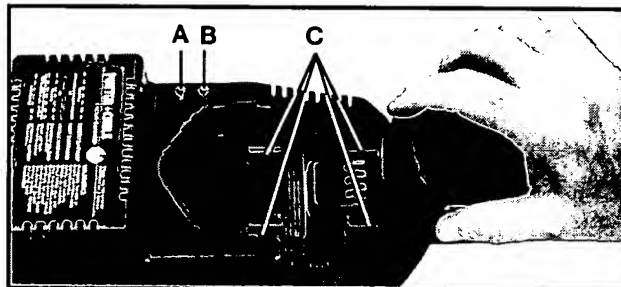
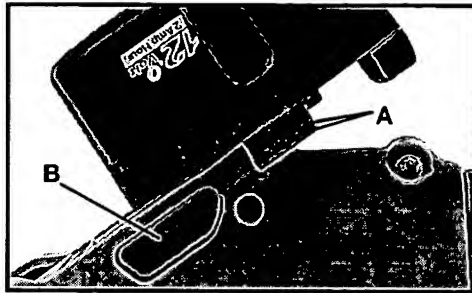

Fig. 23
Fig. 24
Make sure power circuit voltage is the same as that shown on the charger specification plate. Connect charger to power source. The green light (A) Fig. 23, should begin to flash. This indicates the charger is ready to begin charging.
Position battery pack on charger, align rails (A) Fig. 24 on battery pack with four tabs (C) Fig. 23 on charger. Slide battery forward onto charger until it stops.
The green light (A) Fig. 23, should begin to glow continuously, indicating that the battery pack is receiving a "Fast Charge" (if the green light does not glow continuously, or if the red light (B) Fig. 23, also begins to flash: see DIAGNOSTICS). After approximately one hour, the "Fast Charge" indicator light should go out indicating that the battery pack is fully charged and that the charger is now in a "Trickle Charge" mode. The battery pack can be left on "Trickle Charge" until you are ready to use it.
The Porter-Cable Charger is equipped with a diagnostic system that automatically checks the battery pack each time a pack is inserted into the charger. If no problems are found, the charger will automatically switch to "Fast Charge" mode as described in NORMAL CHARGING. If a problem is found, it will be indicated by the charger indicator lights (see Fig. 23), as follows:
**TO REMOVE BATTERY PACK:** Depress the battery release button (B) Fig. 24, and pull battery pack out of tool. **NOTE:** As an added safety feature, depressing the battery release button opens the internal pressure relief valve.
**TO INSTALL BATTERY PACK:** Align rails (A) Fig. 24, on battery pack with slots on tool and push battery pack onto tool until it locks in place.